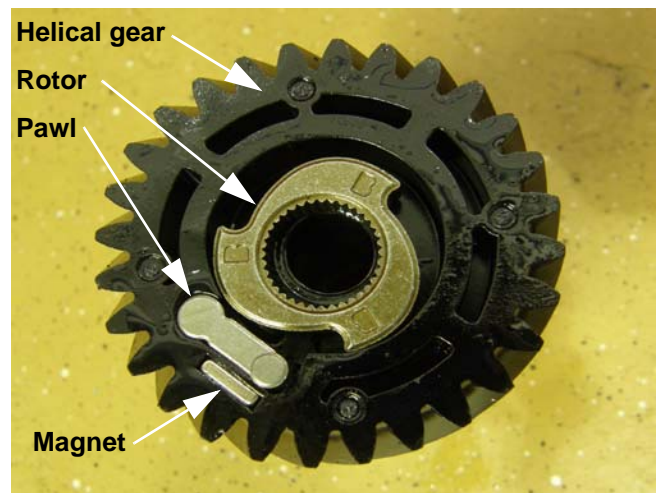

Figure 4.71
13. The A-side pawl is held outward by a small magnet that fits in the pinion gear. See Figure 4.71.